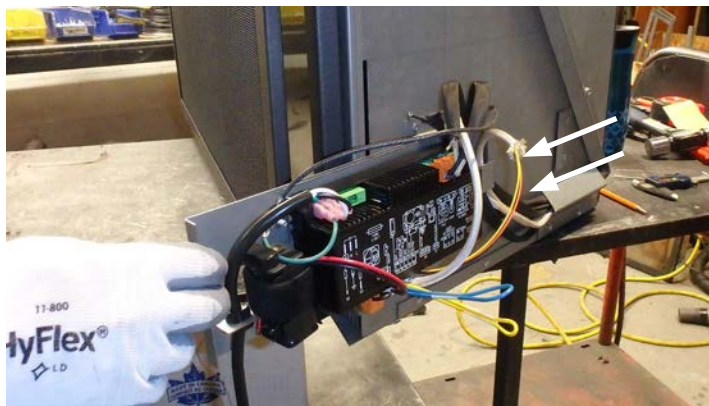

Figure 20.7.01:
4. Slide the control board outward. See **Figure 20.7.01**.